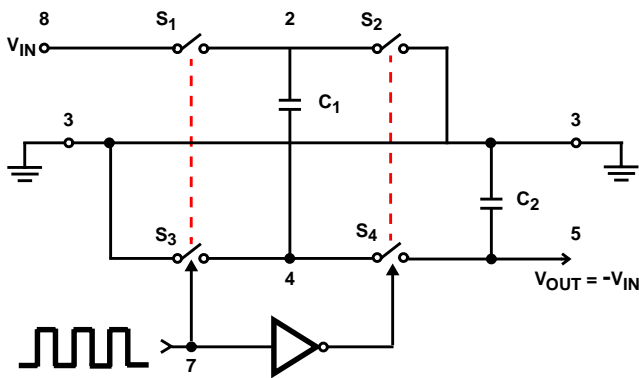
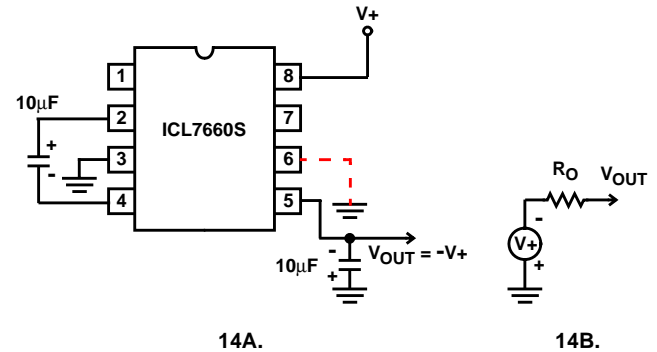
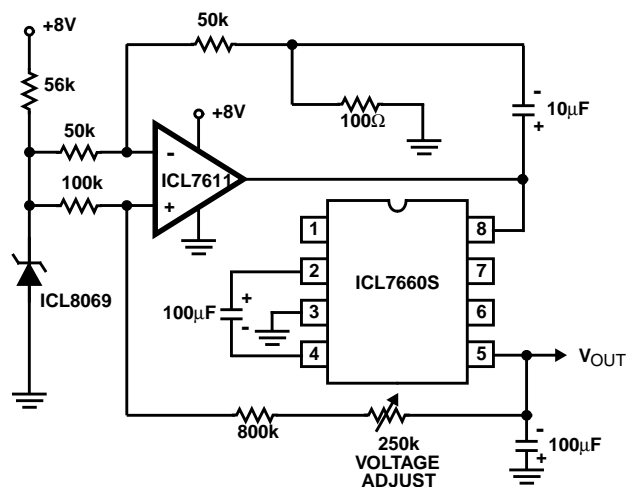
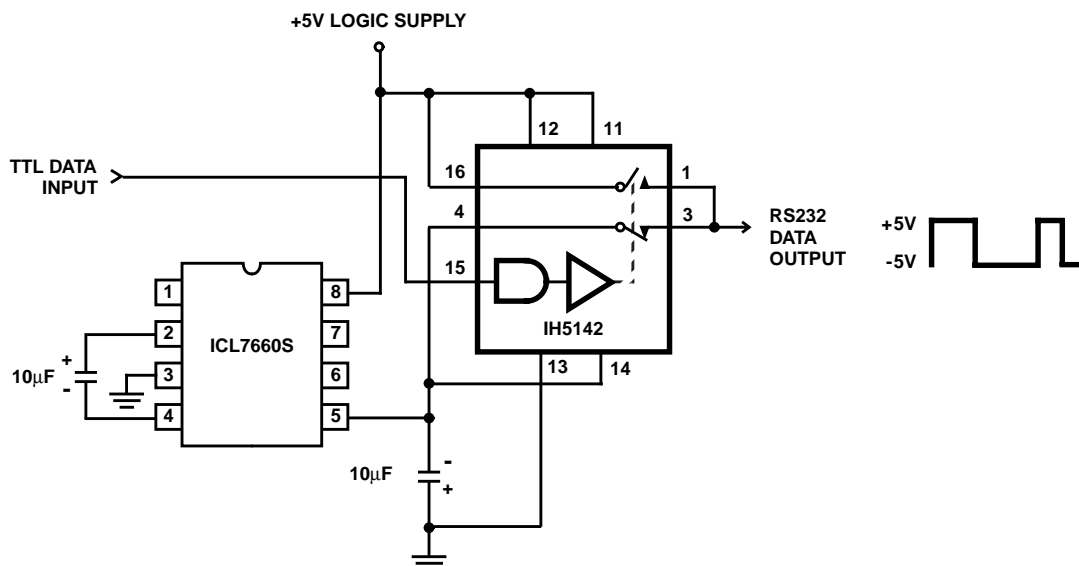

FIGURE 13. IDEALIZED NEGATIVE VOLTAGE CONVERTER
FIGURE 14. SIMPLE NEGATIVE CONVERTER AND ITS OUTPUT EQUIVALENT
FIGURE 20. REGULATING THE OUTPUT VOLTAGE
FIGURE 21. RS232 LEVELS FROM A SINGLE 5V SUPPLY
The ICL7660S contains all the necessary circuitry to complete a negative voltage converter, with the exception of 2 external capacitors which may be inexpensive 10μF polarized electrolytic types. The mode of operation of the device may be best understood by considering Figure 13, which shows an idealized negative voltage converter.
In the ICL7660S, the 4 switches of Figure 13 are MOS power switches;  $S_1$  is a P-Channel devices and  $S_2$ ,  $S_3$  and  $S_4$  are N-Channel devices. The main difficulty with this approach is that in integrating the switches, the substrates of  $S_3$  and  $S_4$
where  $V_1$  and  $V_2$  are the voltages on  $C_1$  during the pump and transfer cycles. If the impedances of  $C_1$  and  $C_2$  are relatively high at the pump frequency (refer to Figure 13) compared to the value of  $R_L$ , there will be substantial difference in the voltages  $V_1$  and  $V_2$ . Therefore it is not only desirable to make  $C_2$  as large as possible to eliminate output voltage ripple, but also to employ a correspondingly large value for  $C_1$  in order to achieve maximum efficiency of operation.
The majority of applications will undoubtedly utilize the ICL7660S for generation of negative supply voltages. Figure 14 shows typical connections to provide a negative supply where a positive supply of +1.5V to +12V is available. Keep in mind that pin 6 (LV) is tied to the supply negative (GND) for supply voltage below 3.5V.
The output characteristics of the circuit in Figure 14 can be approximated by an ideal voltage source in series with a resistance as shown in Figure 14B. The voltage source has a value of  $-(V^+)$ . The output impedance ( $R_O$ ) is a function of the ON resistance of the internal MOS switches (shown in Figure 13), the switching frequency, the value of  $C_1$  and  $C_2$ , and the ESR (equivalent series resistance) of  $C_1$  and  $C_2$ . A good first order approximation for  $R_O$  is:
The ICL7660S may be employed to achieve positive voltage doubling using the circuit shown in Figure 20. In this application, the pump inverter switches of the ICL7660S are used to charge  $C_1$  to a voltage level of  $V_+ - V_F$  (where  $V_+$  is the supply voltage and  $V_F$  is the forward voltage on  $C_1$  plus the supply voltage ( $V_+$ ) is applied through diode  $D_2$  to capacitor  $C_2$ . The voltage thus created on  $C_2$  becomes  $(2V_+) - (2V_F)$  or twice the supply voltage minus the combined forward voltage drops of diodes  $D_1$  and  $D_2$ .
Figure 21 combines the functions shown in Figure 14 and Figure 20 to provide negative voltage conversion and positive voltage doubling simultaneously. This approach would be, for example, suitable for generating +9V and -5V from an existing +5V supply. In this instance capacitors  $C_1$  and  $C_3$  perform the pump and reservoir functions respectively for the generation of the negative voltage, while capacitors  $C_2$  and  $C_4$  are pump and reservoir respectively for the doubled positive voltage. There is a penalty in this configuration which combines both functions, however, in that the source impedances of the generated supplies will be somewhat higher due to the finite impedance of the common charge pump driver at pin 2 of the device.